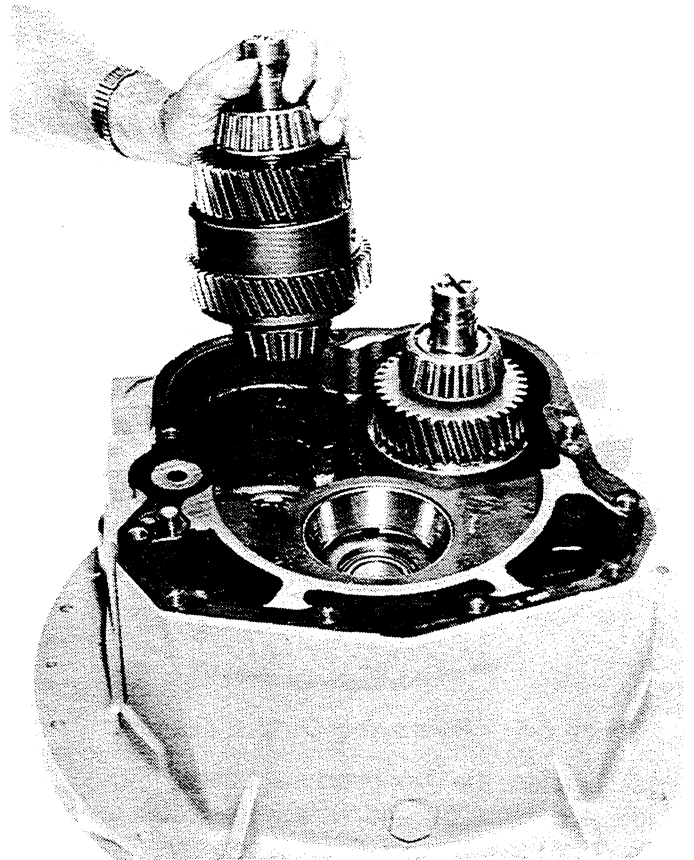

Figure 6-10. Removing or Installing the Reverse Clutch Assembly.
19. Remove the reverse clutch assembly. See Figure 6-10.